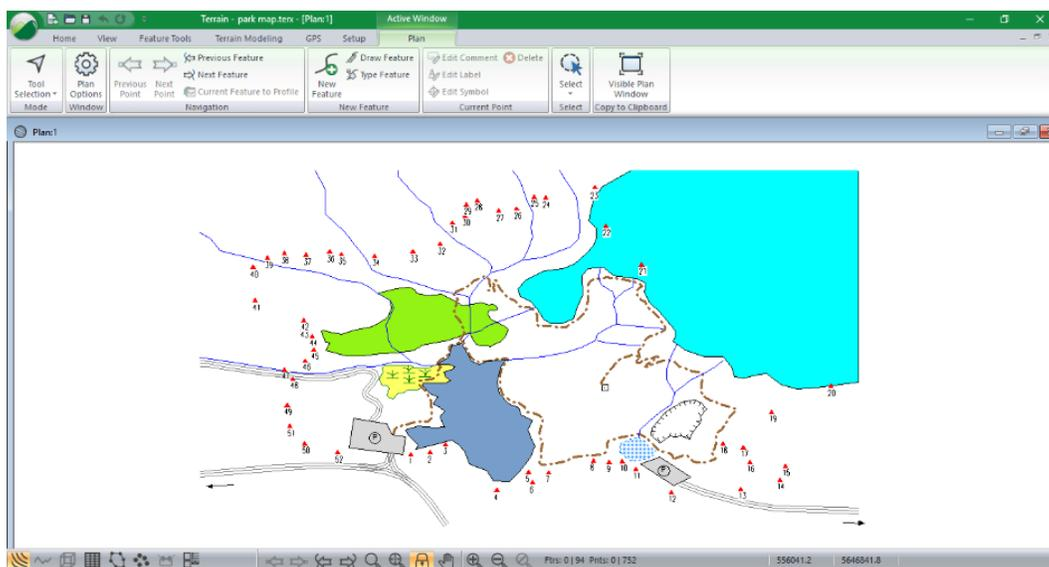

Figure 3-1: File park map.terx open in Terrain Tools
3. Your screen should look like the Figure 3-1. If it does not, maximize your Plan  window.